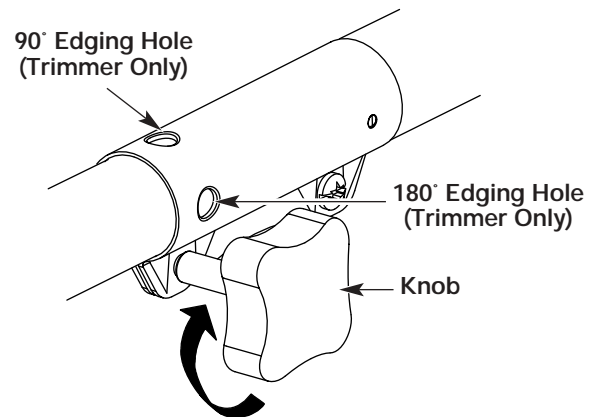

Figure 25
3. Turn the knob clockwise to tighten. See Figure 25.
For edging (when using the line head cutting attachment with EZ-Link™ models), lock the release button of the cutting attachment into the **90° edging hole** or the **180° edging hole**. See Figure 25.